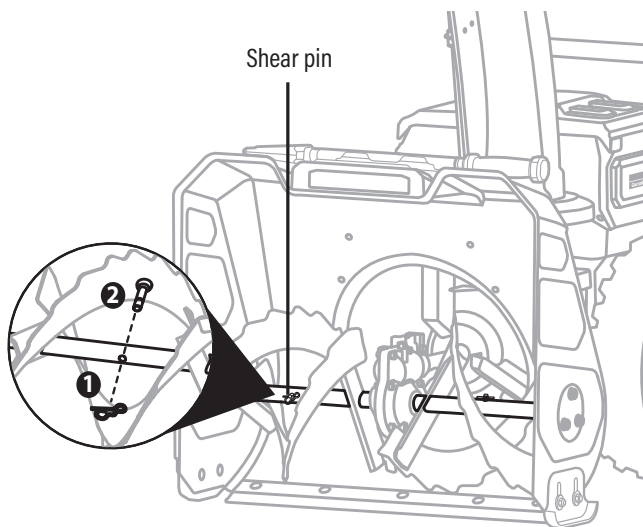

Fig.1
1. Remove the locking pin from the shear pin on each side and then pull out the broken shear pin. (Fig. 1)
2. Carefully align the auger to the auger shaft and insert the new shear pin into the slot, then insert the locking pin to secure the auger. (Fig. 1)